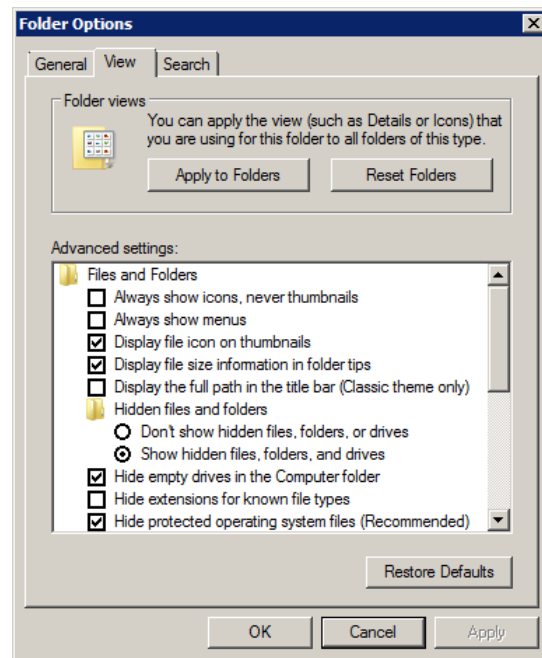

Figure 2-10 Folder Options – View Tab
- b. Click on *View* tab (Figure 2-10).